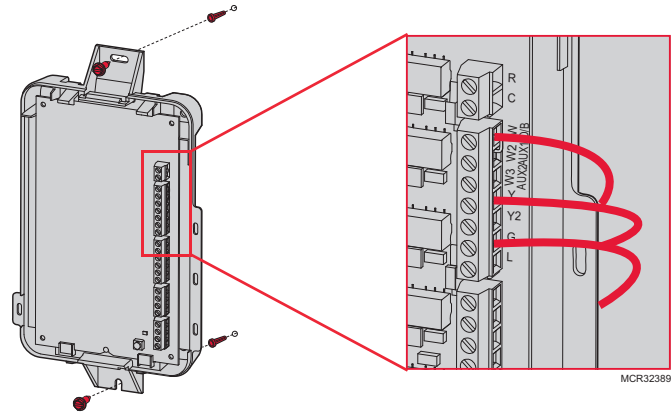

Fig. 9.
2. To wire the EIM, strip 1/4" insulation, then insert wires (see Fig. 9). For wiring diagrams, see “Wiring” beginning on page 134.